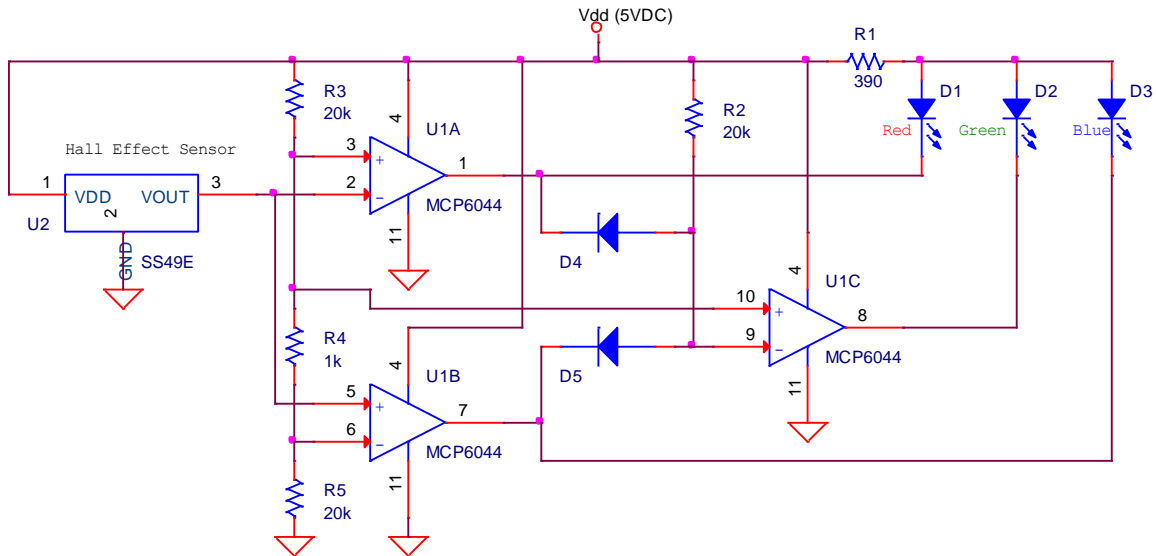

Figure 3 – Schematic Diagram of Window Comparator with Hall Effect Sensor Input
1. Construct the circuit portrayed in the schematic diagram, Figure 3, except do not yet connect U2 to the rest of the circuit.
2. Using the schematic in Figure 3 as a reference, calculate the theoretical voltages at pins 3, 6, and 10 of U1. Now substitute a 20K ohm resistor in place of R4. Recalculate the theoretical voltages at pins 3, 6, and 10 of U1.
3. Explain the purpose of D4 and D5 in the schematic of Figure 3.